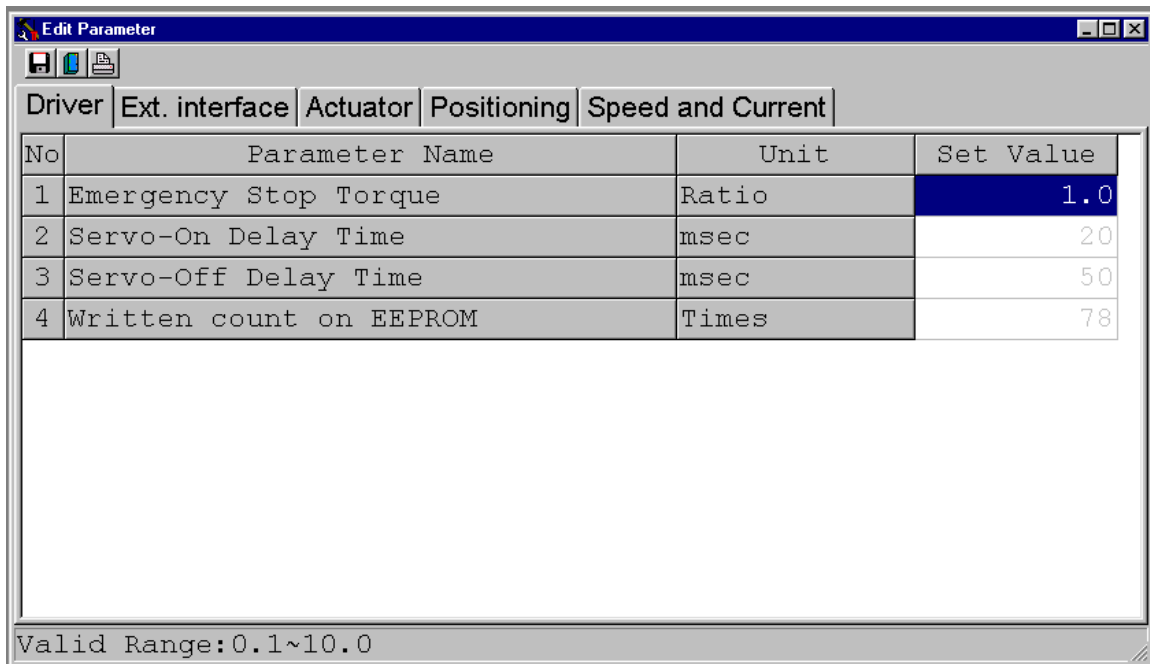

Figure 9.4.1 Edit Parameter Window
* Figure 9.4.1 shows driver parameters. Click other tabs to display other types of parameters.